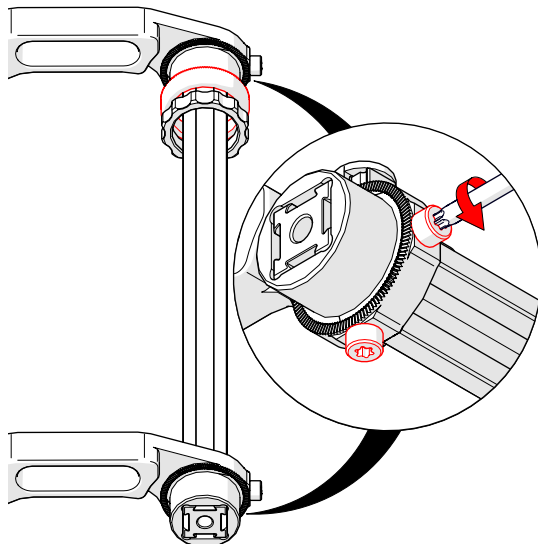

Fig. 143 - Loosen four dovetail screws
5. Loosen the four dovetail screws (Fig. 143).